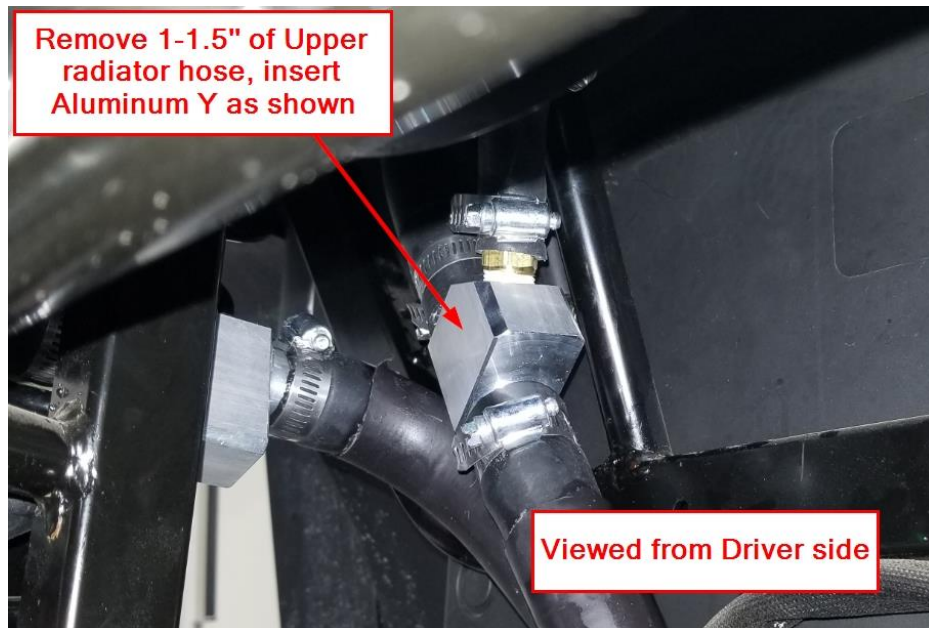

Figure 26
- h. Mark off a 1-1.5" chunk of the Upper and Lower radiator hoses to be cut and removed. This will make room for the CNC machined aluminum Y's. Refer to Figure 25 and Figure 26.
- i. Before installing the Aluminum Y's, using some teflon tape on the 5/8" Brass barb fittings to ensure no leaks are possible. Insert the 5/8" Barbs securely. Then proceed with installing the aluminum Y's exactly as shown in Figure 25 and Figure 26. Secure the 1" Radiator Hoses using the #16 hose clamps.